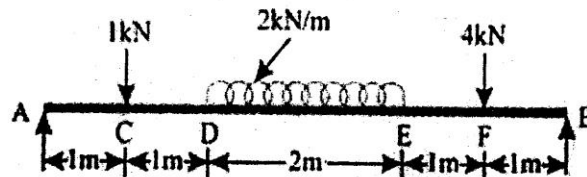

Figure-5
5. Draw the shear force and bending moment diagrams for the beam shown in figure-5. Mark the position of the maximum bending moment and determine its value. (15)